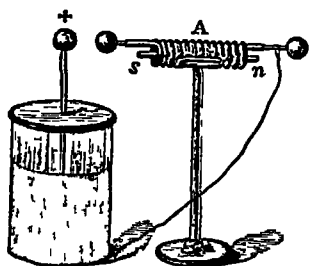

FIG 237
**2 MAGNETIC EFFECT**—Twist a piece of covered wire into a spiral *A* (fig 237), rest it on a support and affix a knob to each end, insert a small needle *s n* in the spiral, connect one end of the spiral to the outer coating of a positively charged Leyden jar, and bring the other end to the knob, discharge the jar several times. The